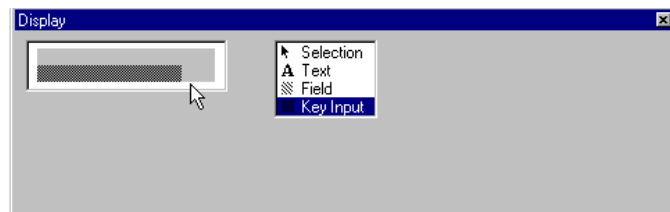

Figure 2-62 Key Input Area Displayed
4. Release the mouse button; the key input area appears in the display area (Figure 2-62).